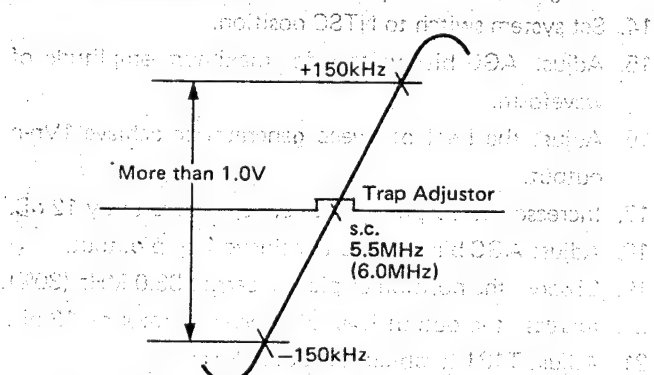

Fig. 16
6. Adjust C277 so that sound carrier 5.5 MHz is centered as in fig. 16.
4. Observe the waveform as in fig. 16.